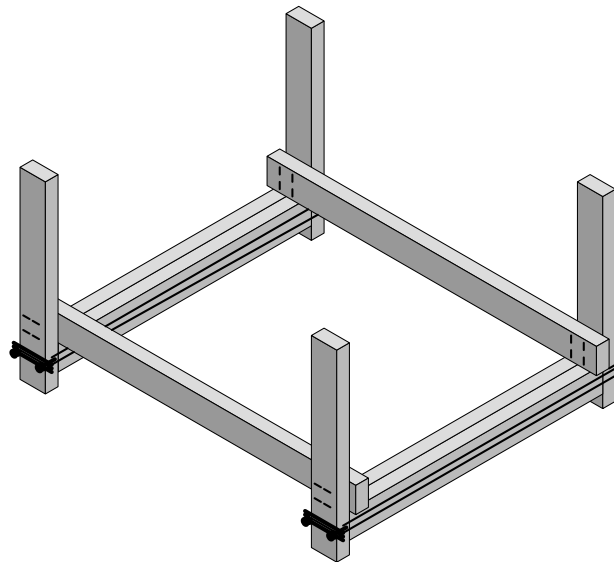
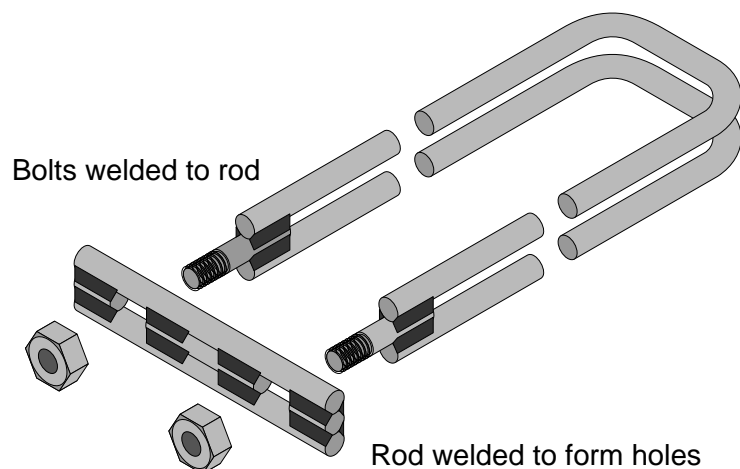

Figure 4: finished framework before planking.
Figure 5: U-bolts for fixing axle beams to U frames.
- 3) Next fit the axle beams in between the two U frames to make the frame shown in figure 4. The best way to join the U frames and the axle beams together strongly is to make up some big U bolts like those shown in Figure 5. These are made from 8 to 12mm round bar and some bolts. You will see from the drawing that they are made by welding rod together, not drilling holes.